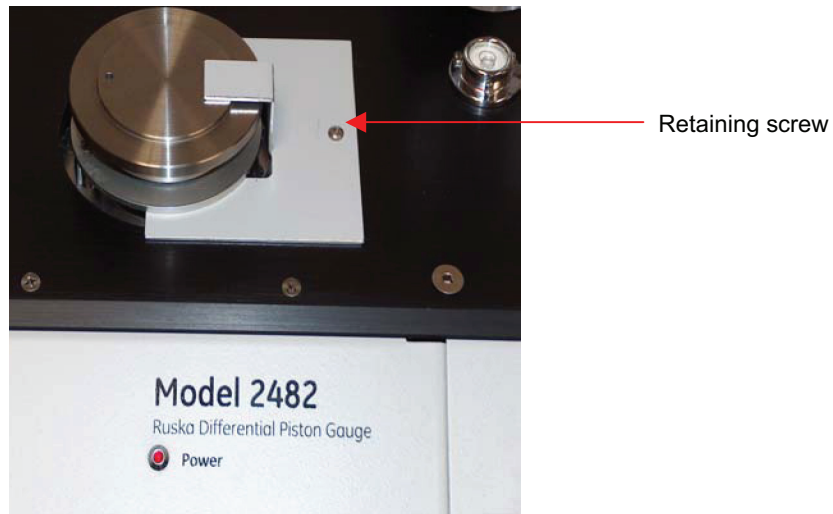

Figure 3. Transit Clamp with Retaining Screw
1. Remove the transit clamp and the retaining screw (see Figure 3).